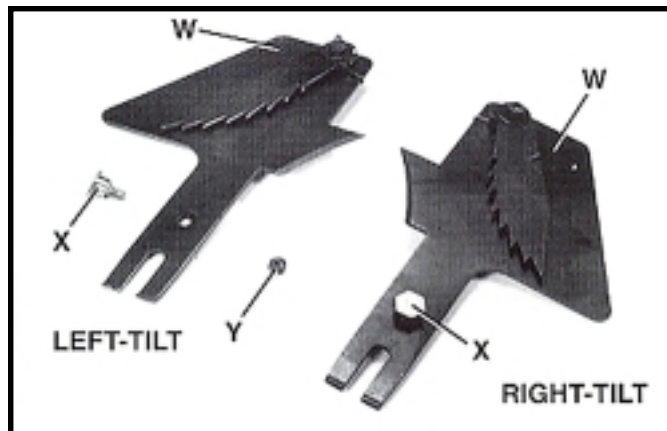

Fig. 20
18. Insert index pin (X) Fig. 20, through the hole in splitter (W), as shown and fasten with locknut (Y). Fig 20 illustrates the index pin assembly arrangement for both right and left-tilting arbor saws.